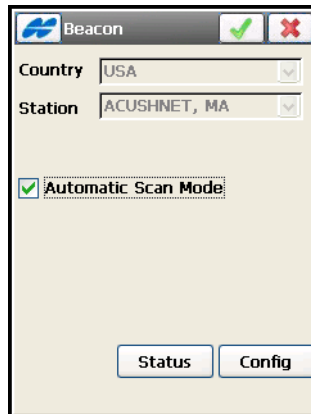

Figure 8-25. BR-1 Configuration
1. Tap the **Config** button to send the appropriate configuration command for BR-1 radio channels (Figure 8-25 on page 8-27):